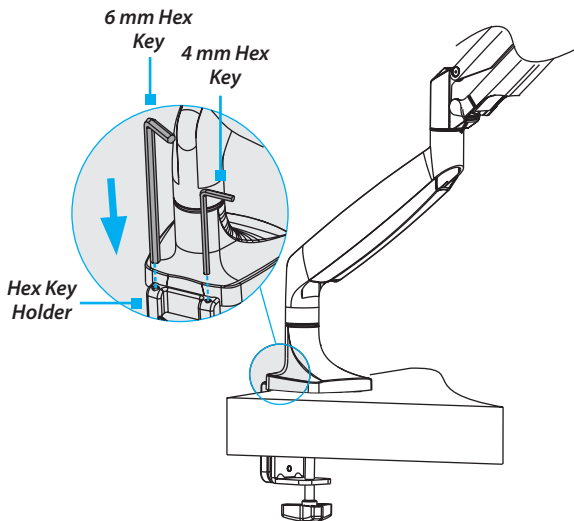

Figure 15
Tip! If you used the **Desk Mount** to mount the **Arm Mount**, when you're done adjusting the **Arm Mount**, you can store the hex keys in the **Hex Key Holder (11)** on the side of the **L Bracket (9)**. (Figure 15)